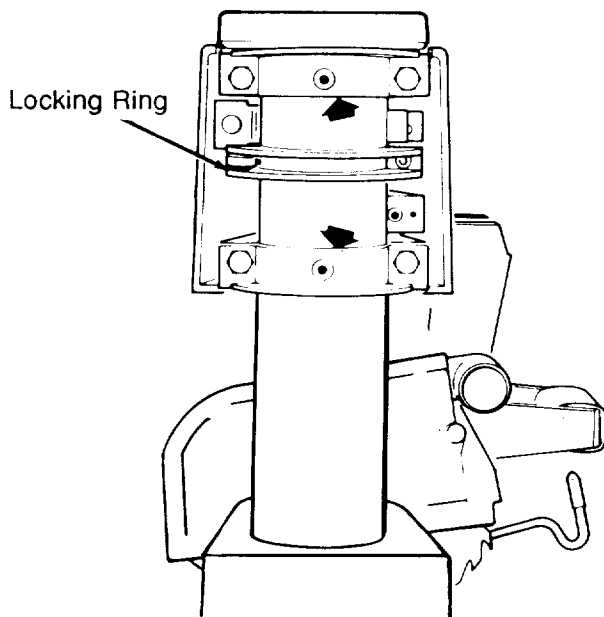

Fig. 152 - Bearing Points Where Arm Attaches to Column Tube
- Lubricate the bearing points where the *arm* attaches to the *column tube*. With a #2 Phillips screwdriver, remove two screws and the *rear arm cover* for access to these points. Be careful not to get lubricant on the *locking rings* as this will adversely affect the miter locking function. (Figure 152)